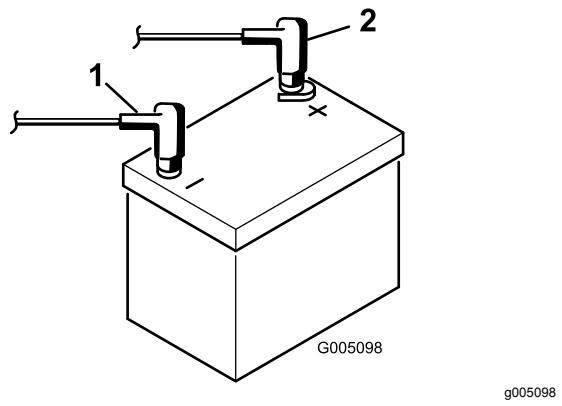

Figure 7
- Install the positive cable (red) to the positive (+) terminal and then the negative cable (black) to the negative (-) terminal of the battery and secure them with the bolts and nuts (Figure 7). Slide the rubber boot over the positive terminal to prevent a possible short from occurring.